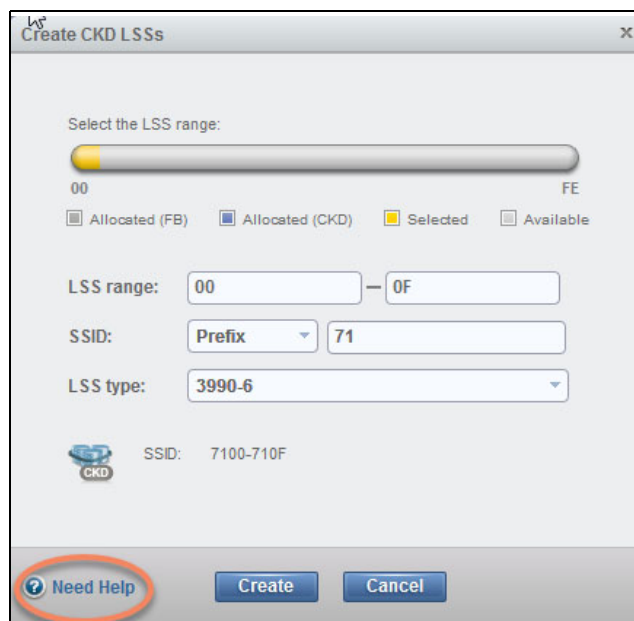

Figure 11-91 Defining CKD LSSs
4. The Create CKD LSSs page opens, as shown in Figure 11-91 on page 340. Complete the required information. After you enter the values for the LSS range, subsystem identifier (SSID) prefix, and LSS type, click **Create**. The Need Help icon displays information about how the unique SSID for each LSS is determined based on the SSID prefix that is provided.